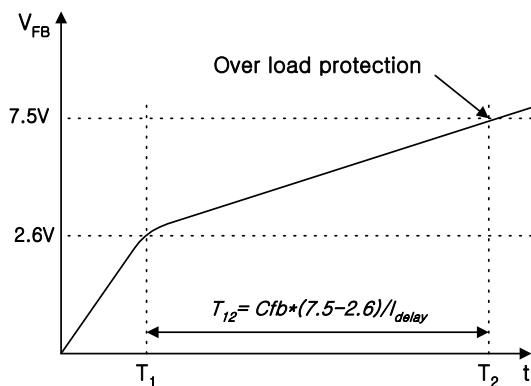

Figure 4. Over load protection
**3.2 Over Load Protection (OLP) :** Overload means that the load current exceeds a pre-set level due to an abnormal situation. In this situation, protection circuit should be activated in order to protect the SMPS. However, even when the SMPS is in the normal operation, the over load protection circuit can be activated during the load transition. In order to avoid this undesired operation, the over load protection circuit is designed to be activated after a specified period to determine whether it is a transient situation or an overload situation. Because of the pulse-by-pulse current limit capability, the maximum peak current through the SMPS is limited, and therefore the maximum input power is restricted with a given input voltage. If the output consumes beyond this maximum power, the output voltage ( $V_o$ ) decreases below the set voltage. This reduces the current through the opto-coupler diode, which also reduces opto-coupler transistor current increasing  $V_{fb}$ . If  $V_{fb}$  exceeds 2.6V, D1 is blocked and the  $5\mu A$  current source starts to charge  $C_{fb}$  slowly compared to when the  $0.9mA$  current source charges  $C_{fb}$ . In this condition,  $V_{fb}$  continues increasing until it reaches 7.5V, and the switching operation is terminated at that time as shown in figure 4. The delay time for shutdown is the time required to charge  $C_{fb}$  from 2.6V to 7.5V with  $5\mu A$ . When  $C_{fb}$  is 10nF (103),  $T_{12}$  is approximately 9.8ms and when  $C_{fb}$  is  $0.1\mu F$  (104),  $T_{12}$  is approximately 98ms. These values are enough to prevent SMPS from being shut down during transient situations.